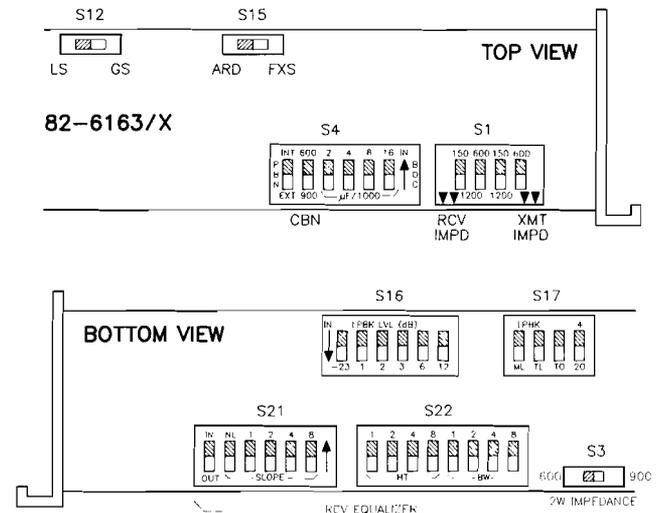

figure 1. Issue 2 6163/X option switch locations
1.03 When optioning the Issue 2 6163/X modules, please disregard figure 4 and the terminating-impedance optioning information in paragraph 3.07 and table 5 of the attached practice. Instead, refer to figure 1 of this addendum and set the *RCV IMPD* and *XMT IMPD* positions of S1 as follows:
1.05 When setting switch options on the Issue 2 6163/X modules (see figure 1 of this addendum), be certain to set the receive-equalizer bypass switch (*IN/OUT* position of the *SLOPE* DIP switch, S21) as follows before adjusting the equalizer: